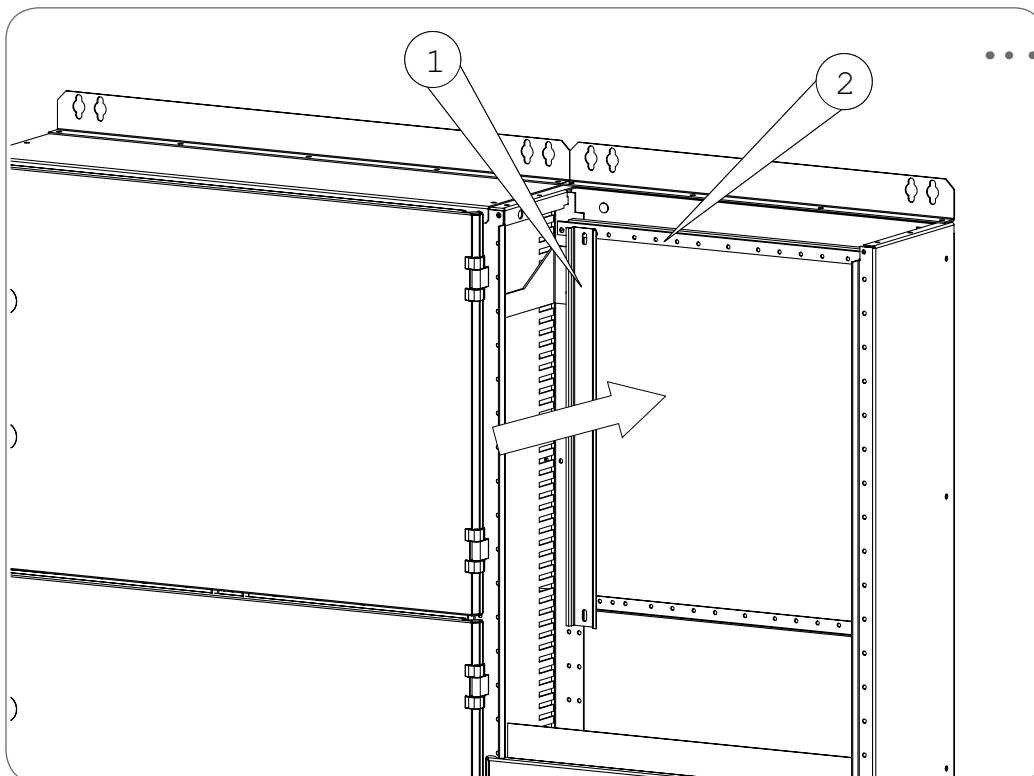

Fig 8.10.5 With vertical DIN installation rails, DIN rails can be mounted vertically.
With vertical DIN installation rails (2) DIN rails (1) can be installed vertically in, for instance, the terminal strip space as shown in Fig. 8.10.5. Vertical DIN installation rails can also be used for mounting components in the components compartment when applicable.